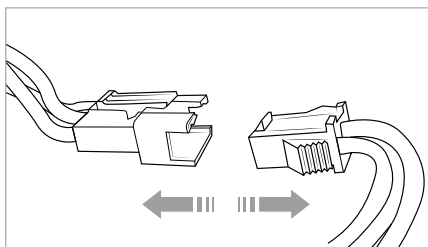

Fig. 27
- 2) Disconnect the plug connection of the battery (see Fig. 27), and remove it from the battery compartment.